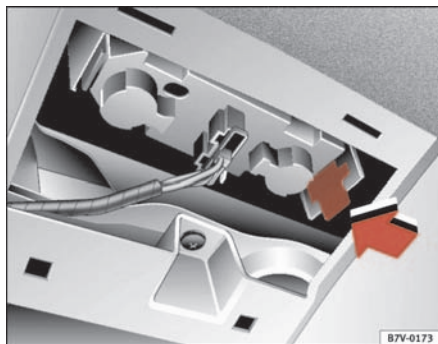

Fig. 166 Lights on tailgate
- Press the elastic tab in the direction of the arrow ⇒ fig. 166 and remove the lampholder downwards.